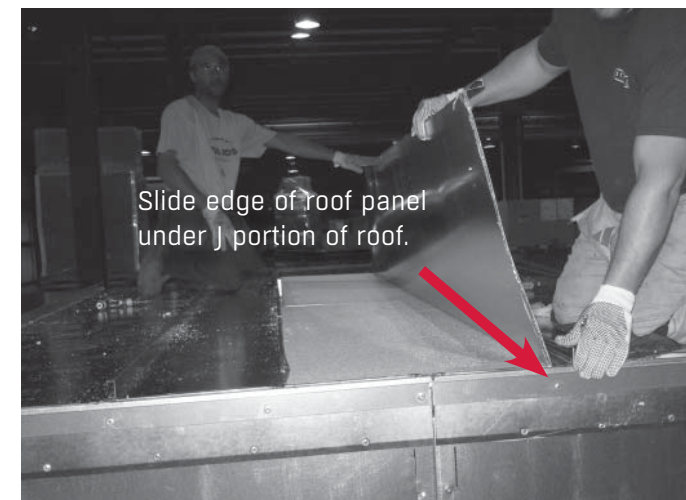

FIGURE 13
- 18) Insert one edge of roof panel as shown and rotate into place (See **FIGURE 13**).